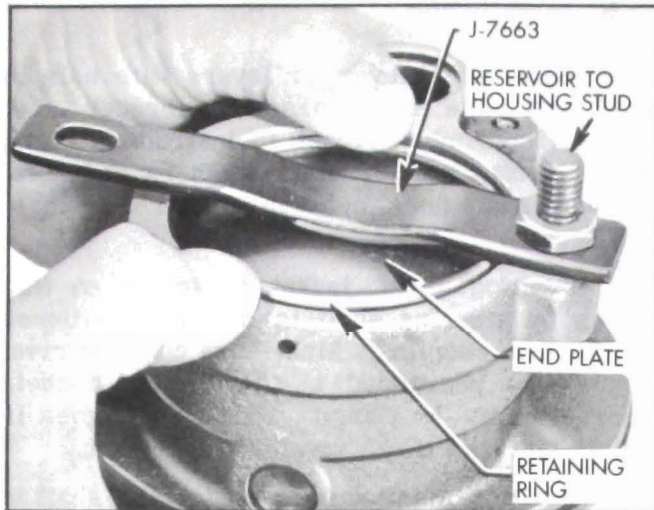

Figure 8-71—Installing End Plate
11. Lubricate outside diameter and chamfer of end plate with petroleum jelly and insert in housing. Place retaining ring on top of end plate and position Installer J-7663 so that depression of installer is against center of end plate. See Figure 8-71. Attach installer to housing (not slotted end) using the reservoir to housing stud with long end of stud threading into housing. Press end plate down by tightening stud until ring groove in housing is evenly exposed. It may be necessary to press down slotted end of installer when tightening stud to prevent end plate from cocking in housing.
12. Install retaining ring, being sure that ring is completely seated in housing groove and end plate is aligned properly. See Figure 8-71.